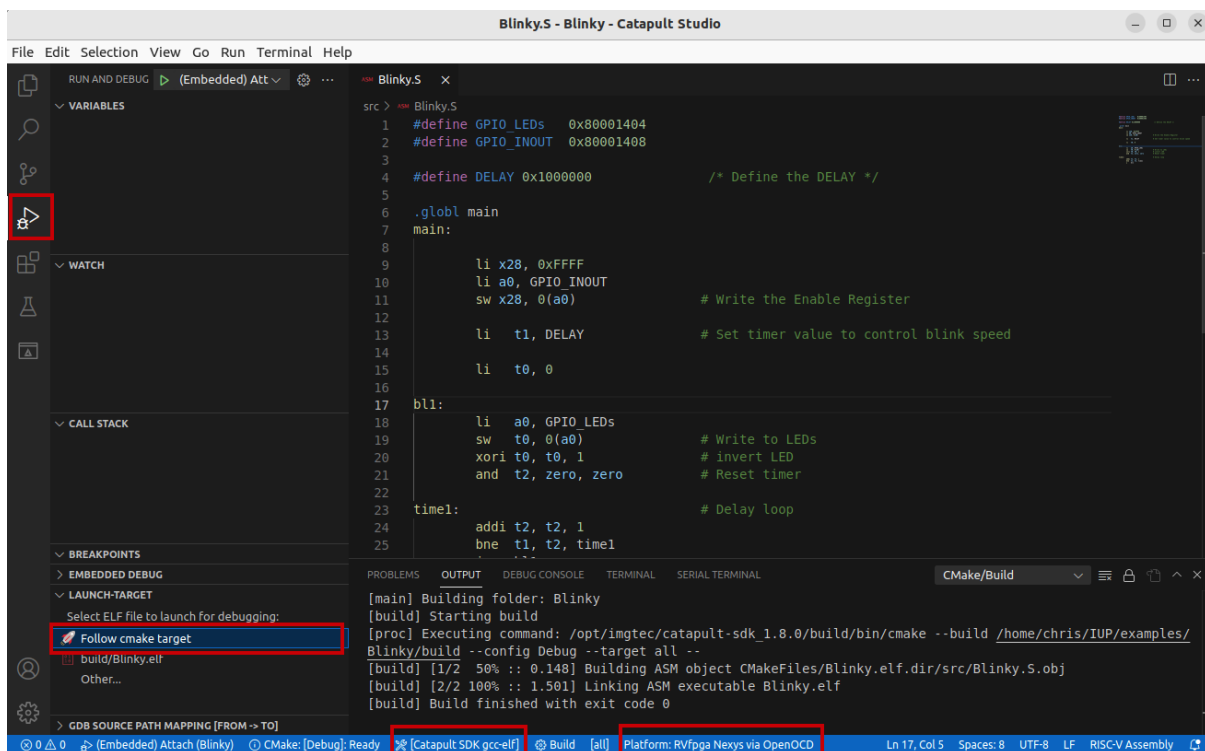

Figure 42. blinky.S in Catapult Studio
5. Select “RVfpga Nexys EL2 NODDDR via OpenOCD” as the platform and “Catapult SDK gcc-elf” for the toolchain. Select “Follow cmake target” in the LAUNCH-TARGET box in the Run and Debug panel (Figure 42).